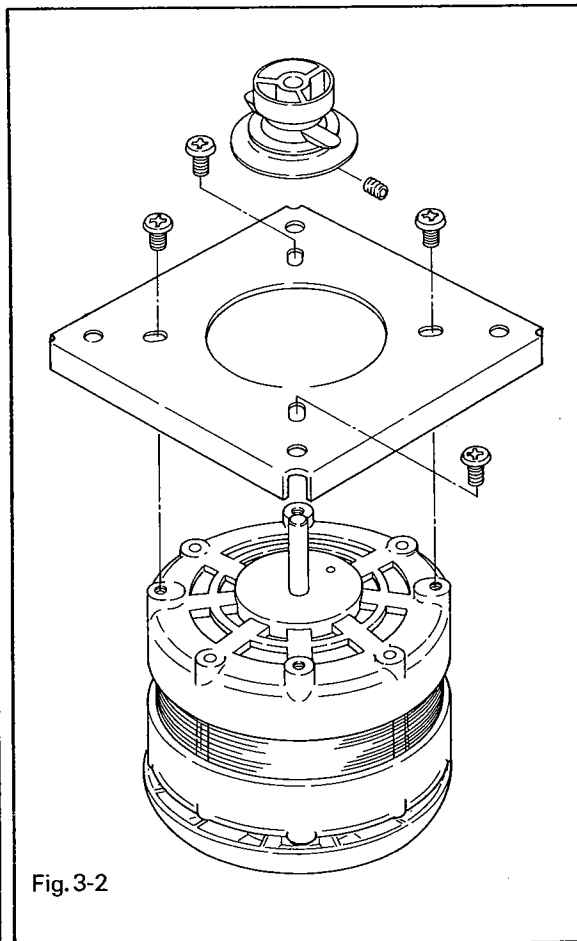

Fig. 3-2
8. The figure 3-2 shows the sequence in which the capstan motor should be separated into its elements.